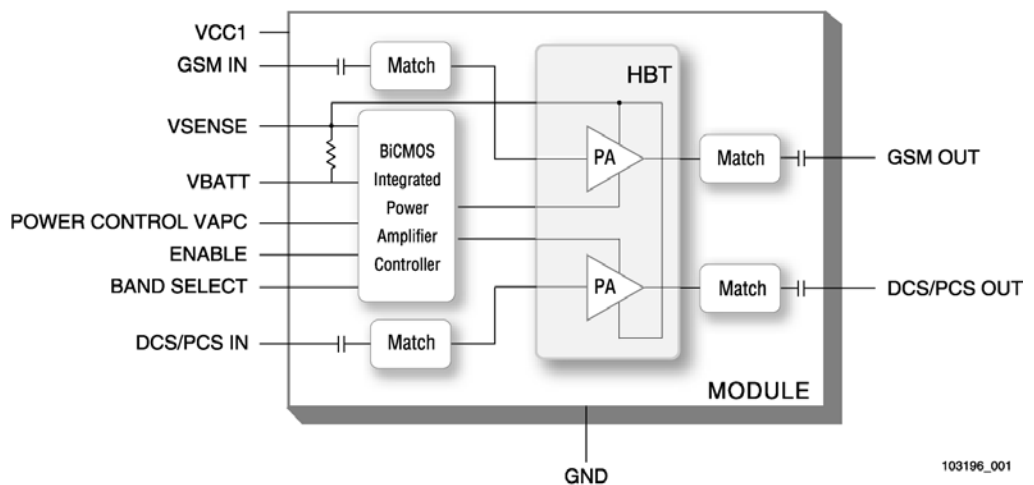

Figure 1. Functional Block Diagram
RF input and output ports of the SKY77325 are internally matched to a 50 Ω load to reduce the number of external components for a quad-band design. Extremely low leakage current (2.5 μA, typical) of the dual PA module maximizes handset standby time. The SKY77325 also contains band-select switching circuitry to select GSM (logic 0) or DCS/PCS (logic 1) as determined from the Band Select (BS) signal. In Figure 1 below, the BS pin selects the PA output (DCS/PCS OUT or GSM850/900 OUT) and the Analog Power Control (VAPC) controls the level of output power.